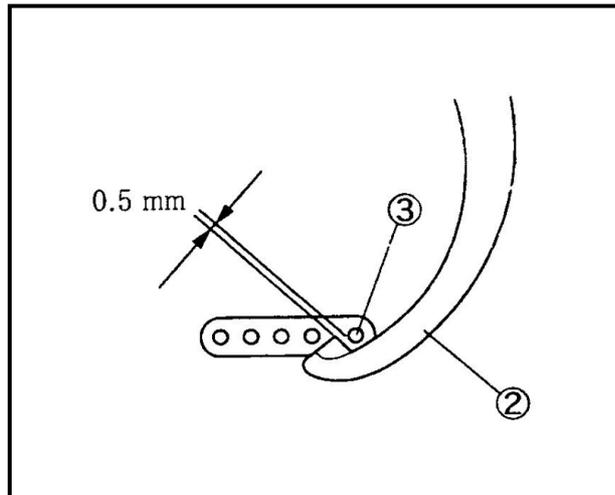

Fig.52
當大上勾針②停在最右邊時，和假針③要有 0.5mm 的間隙。(Fig.52)
When the hook② moves at the extreme right, make the clearance between the hook② and the retainer③ to 0.5 mm. (Fig.52)